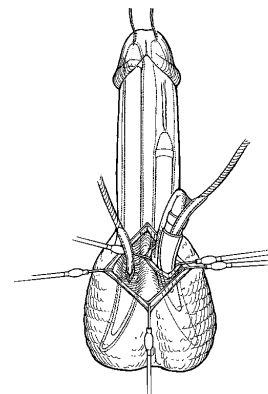
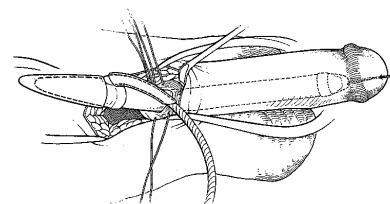

Figure 4-14a. Penoscrotal: Insert Cylinders
Figure 4-14b. Infrapubic: Insert Cylinders
15. Fold cylinder back on itself, then push proximal end of cylinder into the crus while gently stretching the distal penis (**Figure 4-14a, Figure 4-14b**). Alternatively, place the “U” shaped portion of the proximal tool at the junction between the output tube and cylinder and use the tool to push the proximal end of the cylinder into the crus while gently stretching the distal penis. The flatter side of the tool should face toward the cylinder.